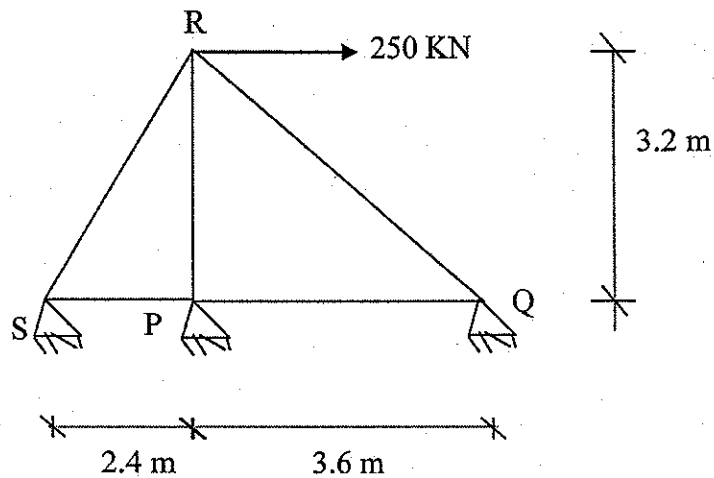

Fig. 3: Truss Problem
3. Evaluate the horizontal and vertical components of deflection of the free end R of the truss as shown in Fig.3 by matrix method of analysis.